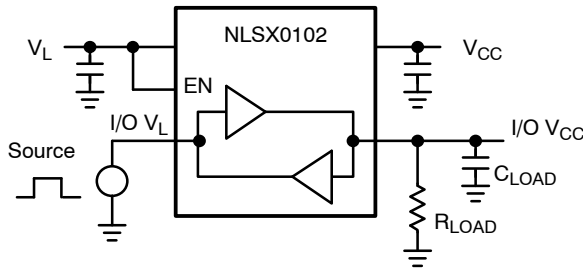

Figure 2. Rail-to-Rail Driving I/O  $V_L$
(I/O test circuits of Figures 2, 3 and 7,  $C_{LOAD} = 15 \text{ pF}$ , driver output impedance  $\leq 50 \Omega$ ,  $R_{LOAD} = 1 \text{ M}\Omega$ , unless otherwise specified)
**Timing Characteristics – Rail-to-Rail Driving Configuration**(I/O test circuits of Figures 2, 3 and 7,  $C_{LOAD} = 15\text{ pF}$ , driver output impedance  $\leq 50\ \Omega$ ,  $R_{LOAD} = 1\text{ M}\Omega$ , unless otherwise specified)